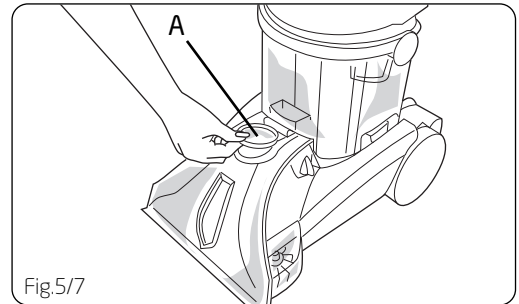

Fig.5/7
Unplug cleaner from electrical outlet. Open hose connection port (A) (Fig. 5/7).
Insert short hose end, matching tabs on hose with same-sized slots in port. Push hose into port and lock in place (Fig. 5/8).